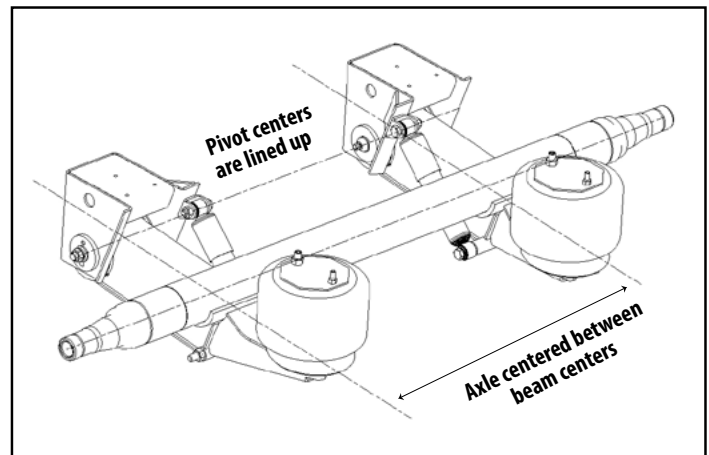

Figure 3.
1. Center the axle assembly between the beam centers (Figure 3).